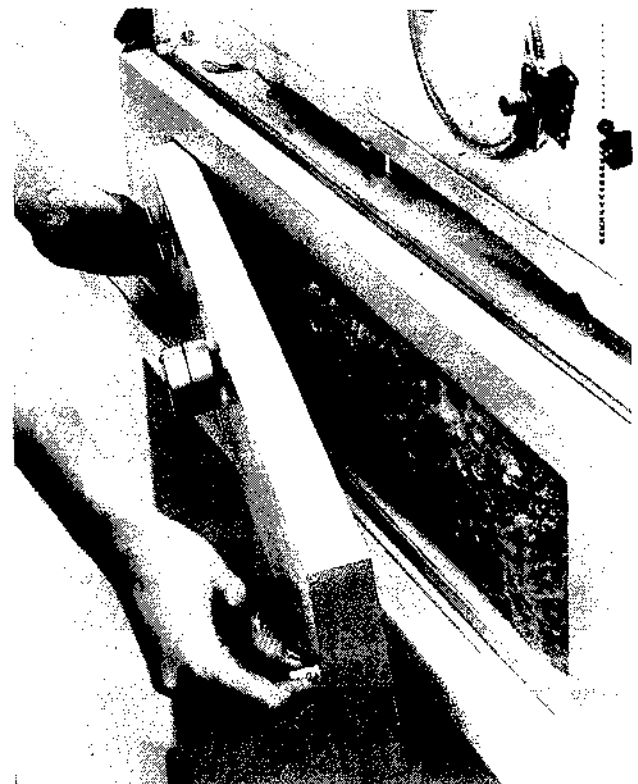

FIGURE 4.8 FILTER COVER REMOVAL
- O. CHECK THE AIR INTAKE MICROFILTER.** Loosen the two thumbscrews of the Air Intake Filter Cover and remove the cover as shown in Figure 4.8. Inspect the microfilter; if visibly dirty it should be replaced. Refer to paragraph 5.9 for additional instructions.